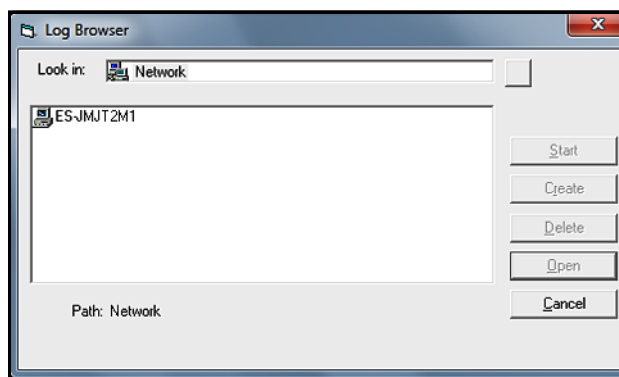

Figure 71: Computer Selection
1. Open the "Output" menu (see *Figure 60* on page 51), and click on "Logging" and then on the "Log Browser" option to open the dialog box shown in *Figure 71* below.